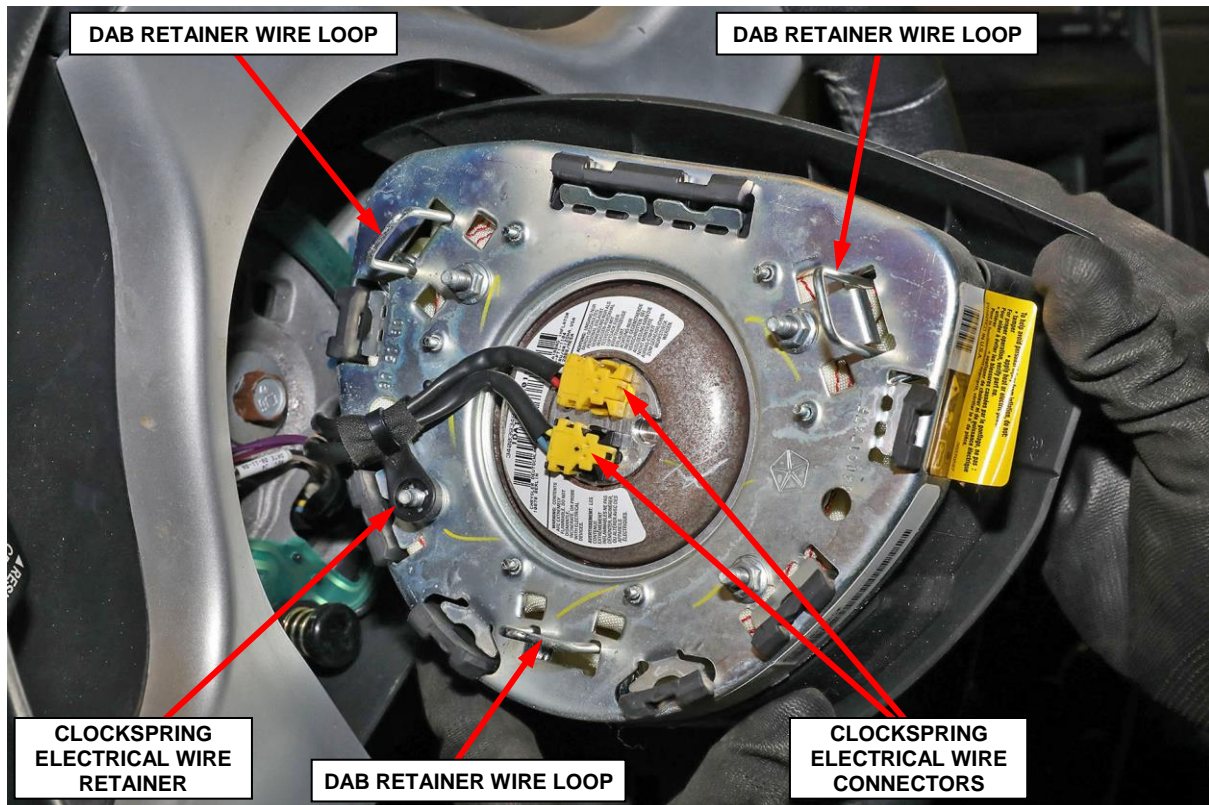

Figure 4 – DAB Retainers and Clockspring Electrical Wire Connectors
11. Pull the driver air bag away from the steering wheel far enough to access the clockspring electrical wire connectors at the back of the air bag housing (Figure 4).
12. The air bag electrical wire harness has a plastic retainer that is pushed onto one of the inflator mounting studs on the back of the air bag housing. Pull the retainer off of the stud (Figure 4).
13. The clockspring driver air bag pigtail wire connectors are secured by an integral lock to the air bag inflator connector receptacles, which are located on the back of the DAB housing. Firmly grasp and pull the lock straight out from the connector insulator, then pull the insulators straight out from the air bag inflator to disconnect them from the connector receptacles (Figure 4).
1. Position the driver air bag close enough to the steering wheel to reconnect the electrical connections to the back of the air bag housing (Figure 4).
2. When installing the driver air bag, reconnect the two clockspring pigtail wire connector connections to the air bag inflator connector receptacles by pressing straight in on the connectors, then push the locks straight into the connectors. Be certain to engage each keyed and color-coded connector to the matching connector receptacle (Figure 4).
3. The air bag electrical wire harness has a plastic retainer that is pushed onto one of the inflator mounting studs on the back of the air bag housing. Install the retainer onto the stud (Figure 4).